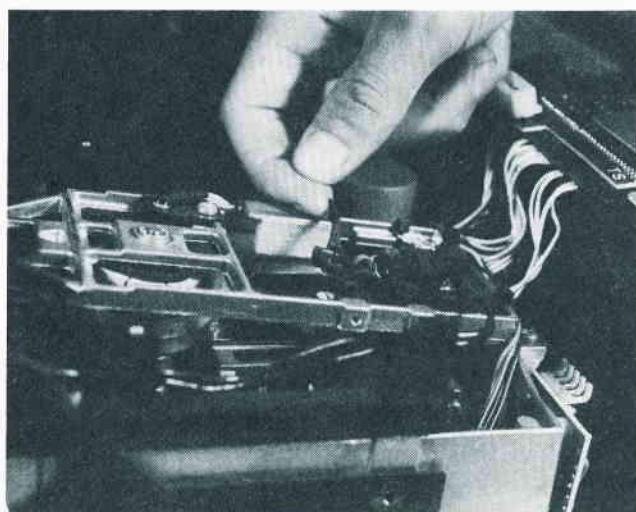

Fig. 5-11. Carefully lift the head load arm to expose the read head below.
12. Carefully lift the black head-load arm as shown in Fig. 5-11, and look for discoloration (build-up) on the surface of the pad, or on the read/write head below.